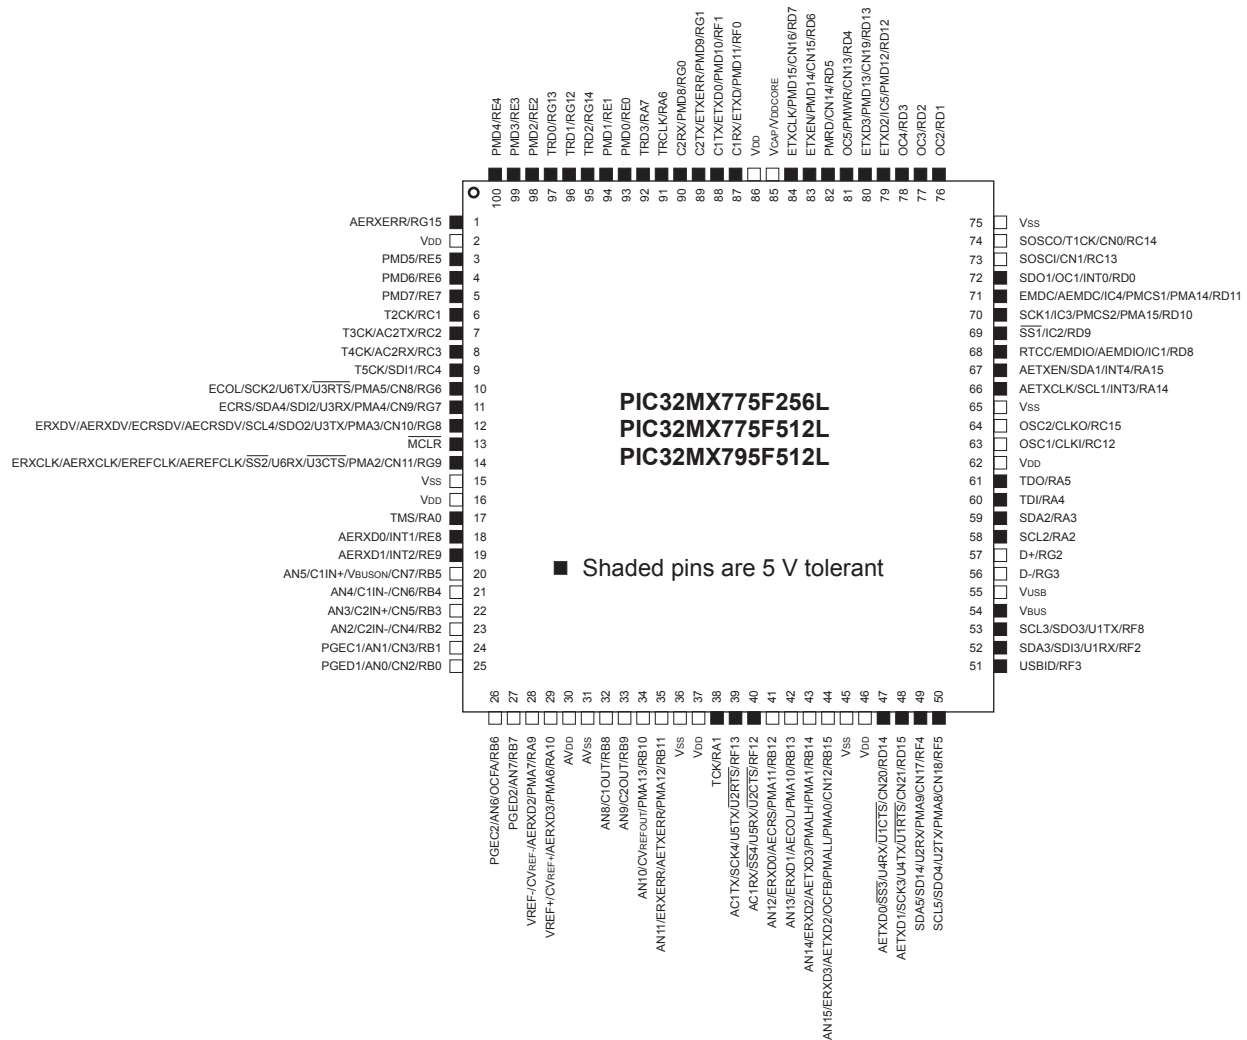

Figure 2.1: The pinout of the PIC32MX795F512L used on the NU32.
To cram so much functionality into 100 pins, many of the pins serve multiple functions. See the pinout diagram for the PIC32MX795F512L (Figure 2.1). As an example, pin 21 can serve as an analog input, a comparator input, a change notification input (which can generate an interrupt when an input changes state), or a digital input or output.
Pin 78 in Figure 2.1 can serve as OC4 (output compare 4) or RD3 (digital I/O number 3 on port D). Let's say we want to use it as a digital output. We can set the SFRs that control this pin to disable the OC4 function and to choose the RD3 function as digital output instead of digital input. Looking at the PIC32MX5xx/6xx/7xx Data Sheet section on Output Compare, we see that the 32-bit SFR named "OC4CON" determines whether OC4 is enabled or not. Specifically, for bits numbered 0 . . . 31, we see that bit 15 is responsible for enabling or disabling OC4. We refer to this bit as OC4CON<15>. If it is a 0, OC4 is disabled, and if it is a 1, OC4 is enabled. So we clear this bit to 0. (Bits can be "cleared to 0," or simply "cleared" for short, or "set to 1," or simply "set" for short.) Now, referring to the I/O Ports section of the Data Sheet, we see that the input/output direction of Port D is controlled by the SFR TRISD, and bits 0-15 correspond to RD0-15. Bit 3 of the SFR TRISD, i.e., TRISD<3>, should be cleared to 0 to make RD3 (pin 78) a digital output.
**Digital Input and Output** A digital I/O pin configured as an input can be used to detect whether the input voltage is low or high. On the NU32, the PIC32 is powered by 3.3 V, so voltages close to 0 V are considered low and those close to 3.3 V are considered high. Some input pins can tolerate up to 5.5 V, while voltages over 3.3 V on other pins could damage the PIC32 (see Figure 2.1 for the pins that can tolerate 5.5 V).